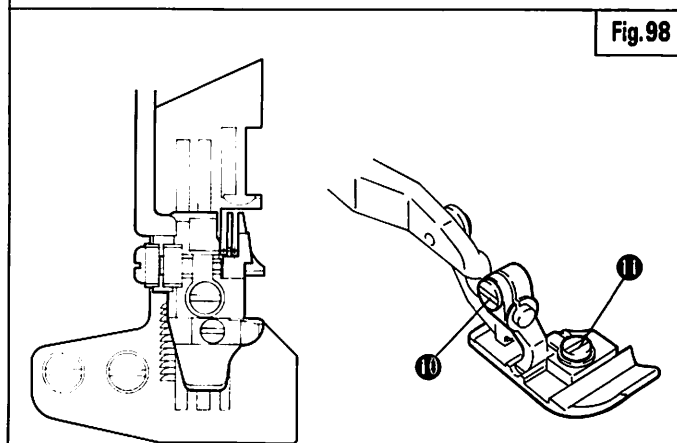

Fig. 98
For setting the type of Fig. 98, loosen Screws ⑩, ⑪ and adjust.